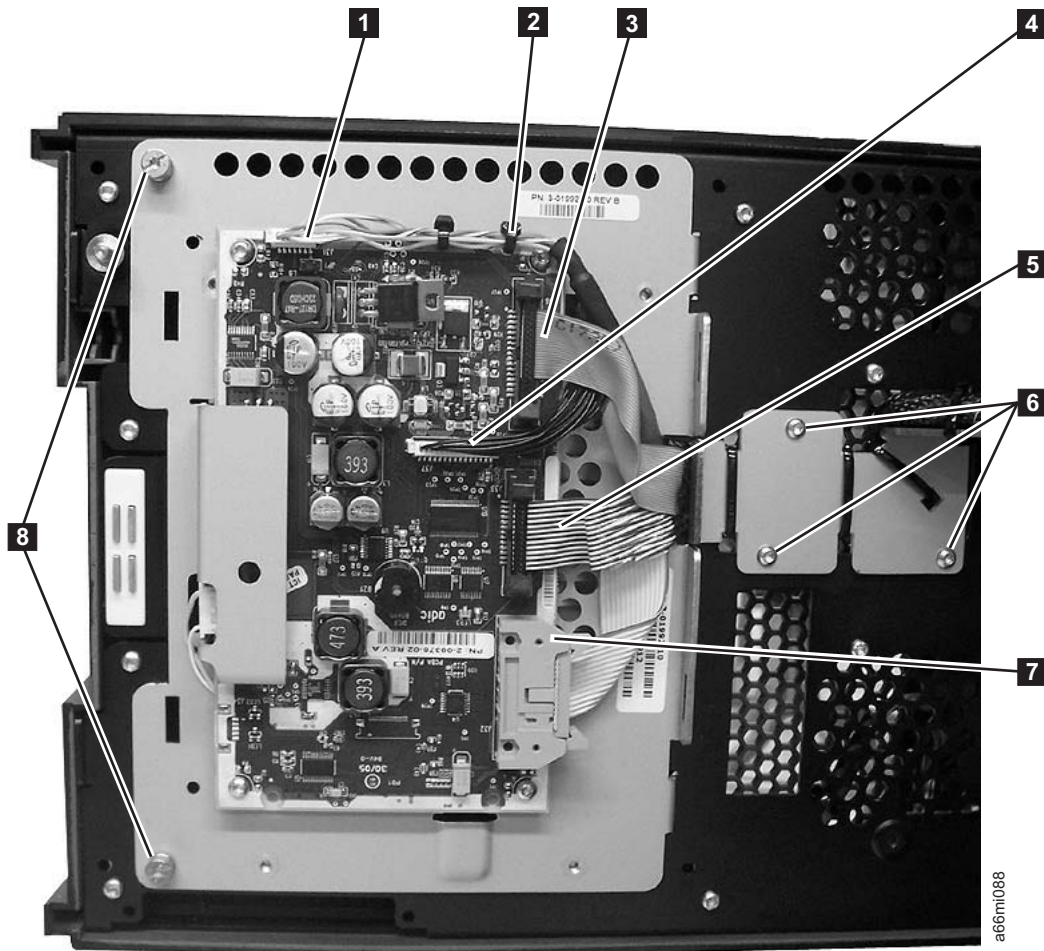

Figure 8-73. Operator Panel Cable Connectors
- e. Remove cable connectors J36 (see **3** in Figure 8-73 on page 8-75), J35 (see **5** in Figure 8-73 on page 8-75), and J32 (see **7** in Figure 8-73 on page 8-75) from the Operator Panel board.
- f. Remove the 3 screws (see **6** in Figure 8-73) from the cable retainer bracket on the back of the door.